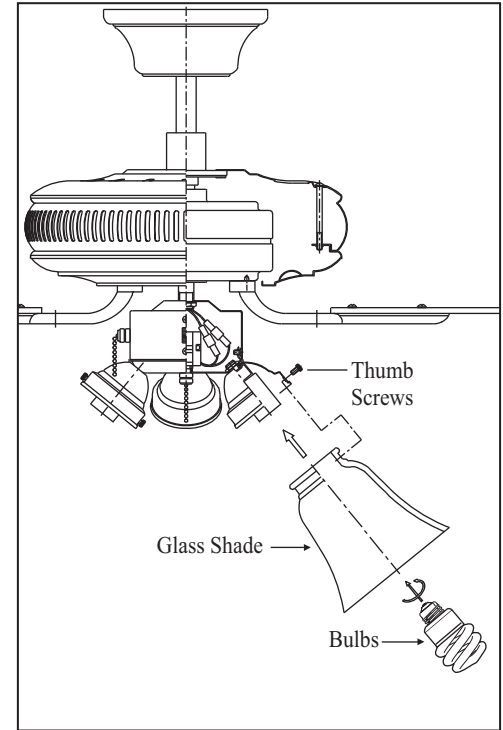

Figure 21
3. Mount the glass shades to the light fixture by unscrewing partway the thumbscrews on the glass holders, insert the glass, then gently tighten the thumbscrews by hand evenly to the glass. **DO NOT OVER TIGHTEN** (Fig. 21).